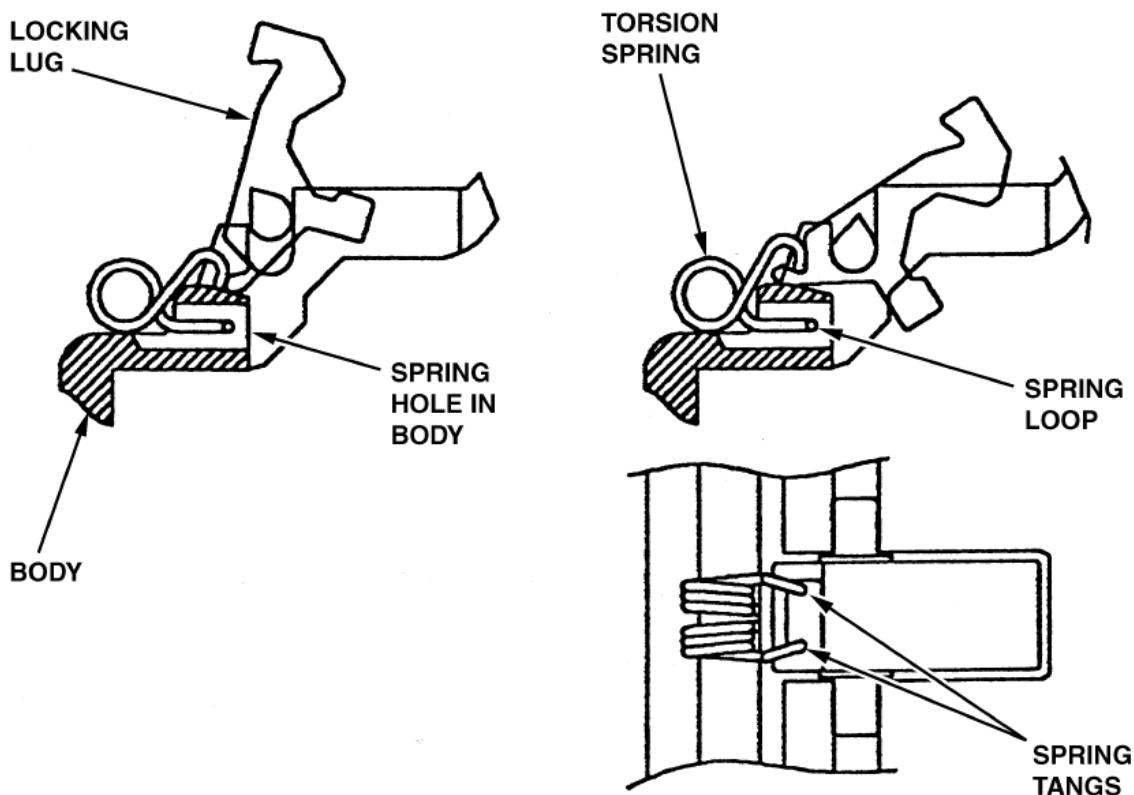

Figure 4. Springs and Locking Lugs Installation
- See Figure 4 and install the springs (22) and locking lugs (24) in the coupler body (1) as follows: